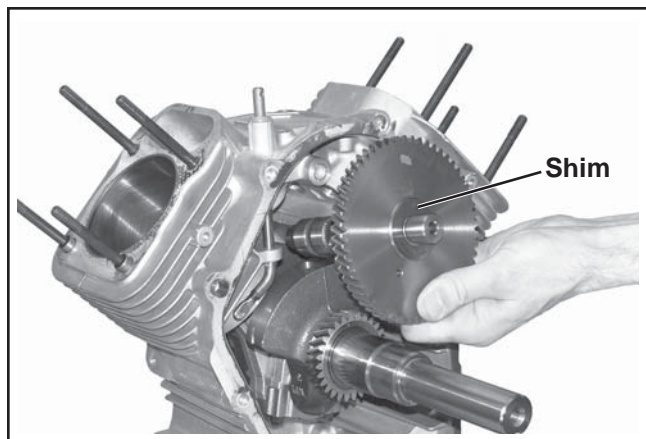

Figure 8-63. Removing Camshaft.
1. Remove the camshaft and shim (if used). See Figure 8-63.